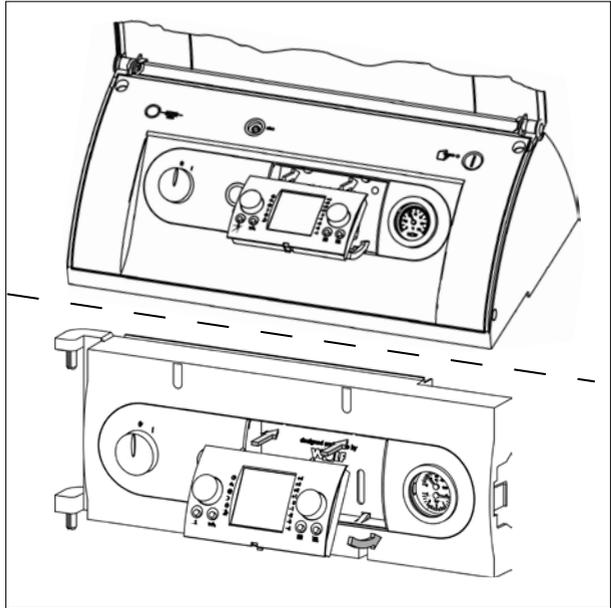

Fig. 4.9 Inserting the BM programming module
- ▶ Set the rotary dial for heating temperature selection to the middle position (5).
- ▶ Set the rotary dial for hot water temperature selection to the middle position (5).
- ▶ Remove the front panel (**Fig. 4.9**)